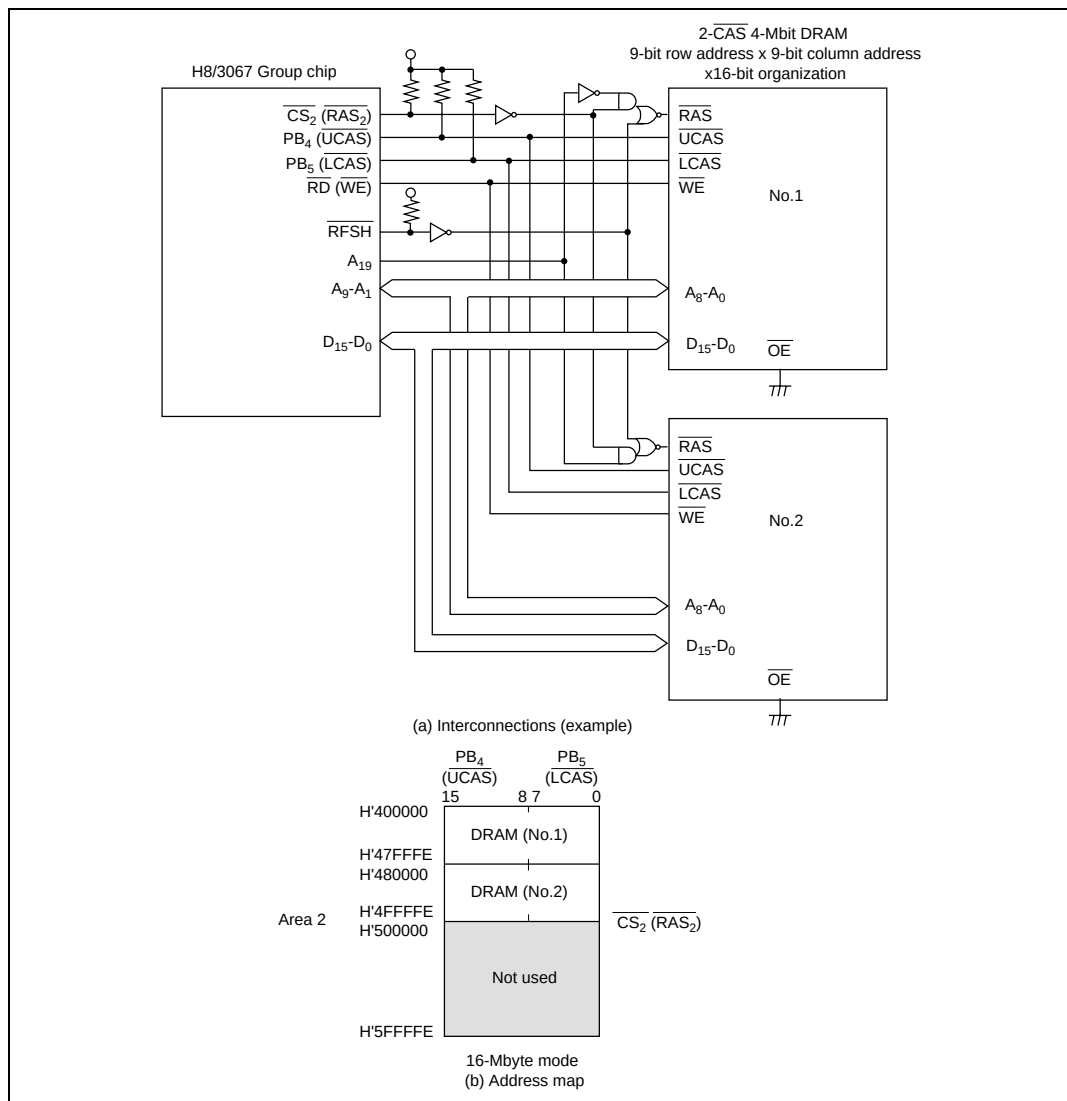

Figure 6.33 Interconnections and Address Map for 2-CAS 4-Mbit DRAMs with $\times 16$ -Bit Organization
- Figure 6.33 shows typical interconnections when using two 4-Mbit DRAMs, and the corresponding address map. The DRAMs used in this example are of the 9-bit row address $\times$ 10-bit column address type. In this example, upper address decoding allows multiple DRAMs to be connected to a single area. The $\overline{\text{RFSH}}$ pin is used in this case, since both DRAMs must be refreshed simultaneously. However, note that RAS down mode cannot be used in this interconnection example.